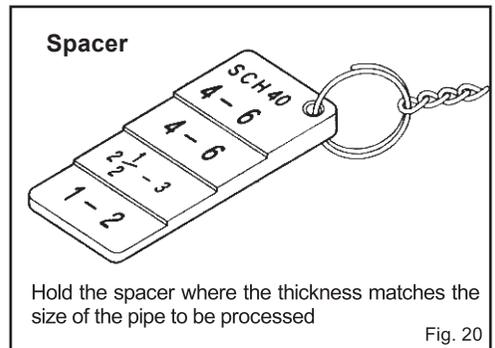

Fig. 20
* Hold the spacer where the thickness matches the size of the pipe to be processed. (Fig. 20)